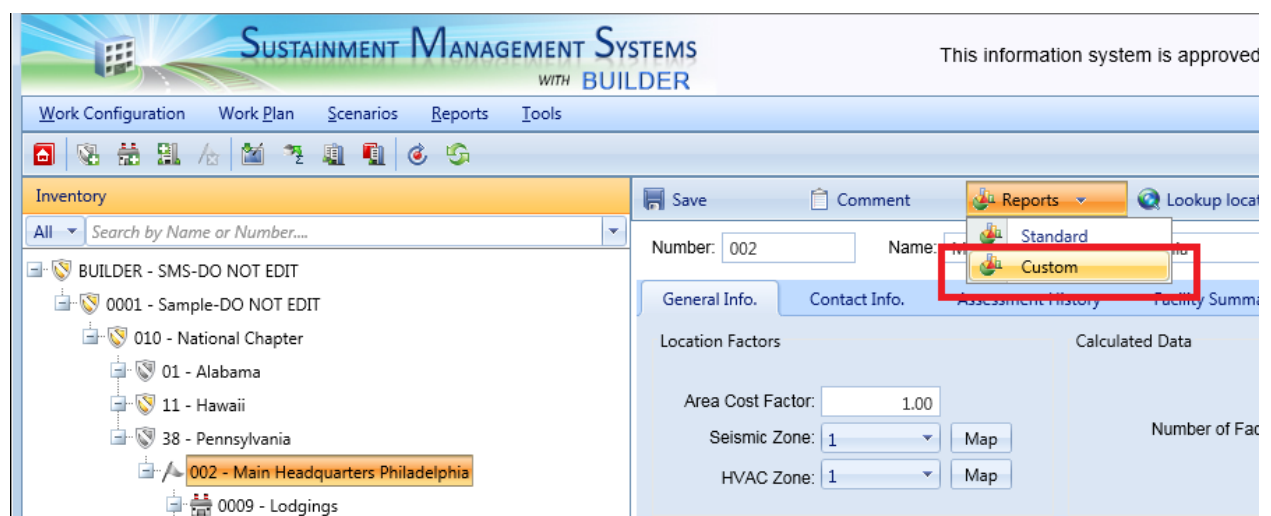

Figure 1: Location of Custom Reports in BUILDER 3.3.7. This example shows the Site level being selected; thus only Custom Site level reports will render.
1. Figure 1: Location of Custom Reports in BUILDER 3.3.7.
In BUILDER, Custom Reports are accessed from the toolbar above the content pane (Figure 1).
The Custom Reports menus that appear after clicking Custom (see red box, Figure 1) will differ depending upon what hierarchy level in BUILDER a report is launched from. That is, if a user has selected a Site within the BUILDER Inventory hierarchy tree and from there chooses the Custom Reports menu, then the drop-down menu—or, depending on which version of BUILDER is being utilized, the drop-down menu available in the “Custom Reports” popup